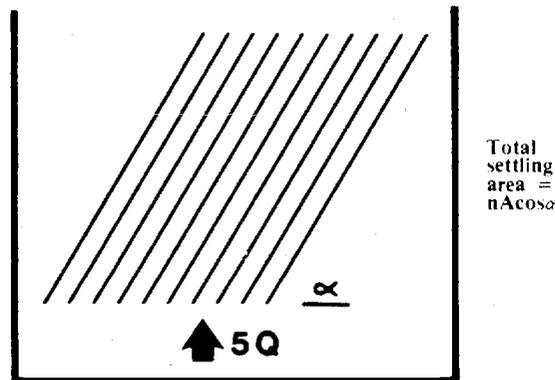

FIGURE 4.
A solution to the problem of removing sludge build-up from the otherwise efficient horizontal plate stack is to incline the plates at an angle so the sludge will be self-draining. Figure 4 shows an arrangement containing ten plates set at an angle of 60° above the horizontal. The total plate area is derived as above, but the plate area must be multiplied by the cosine of the angle to correctly determine the effective settling area. (Thus only the projected area of each plate on a horizontal plane is "counted.") In this example, the total settling area is $10A \cos. 60^\circ = 5A$ and the capacity of the unit is $5Q$.
The design shown in Figure 4 is exemplified by the present-day tube settler. Tubes instead of plates are used, but the basic principle is the same. The tubes are generally about two inches square in cross-section and two feet long. This design, however, suffers from two very serious limitations. First, there is no means provided to ensure that the flow is uniformly distributed throughout the settler. As a result, parts of the settler may be overloaded while other parts may be underloaded. Secondly, the sludge which collects in the tubes must settle through the incoming feed in order to reach the bottom of the basin and be removed. Consequently, the solids, particularly in hindered settling operations, may be reentrained by the feed. Tube settlers and similar devices have no provision for hindered settling. Due to these limitations, such a settler must be operated at a loading rate of only 25-50% of its theoretical "overflow rate." (For more detailed background on this specific subject, please refer to (2) and (3) below.)